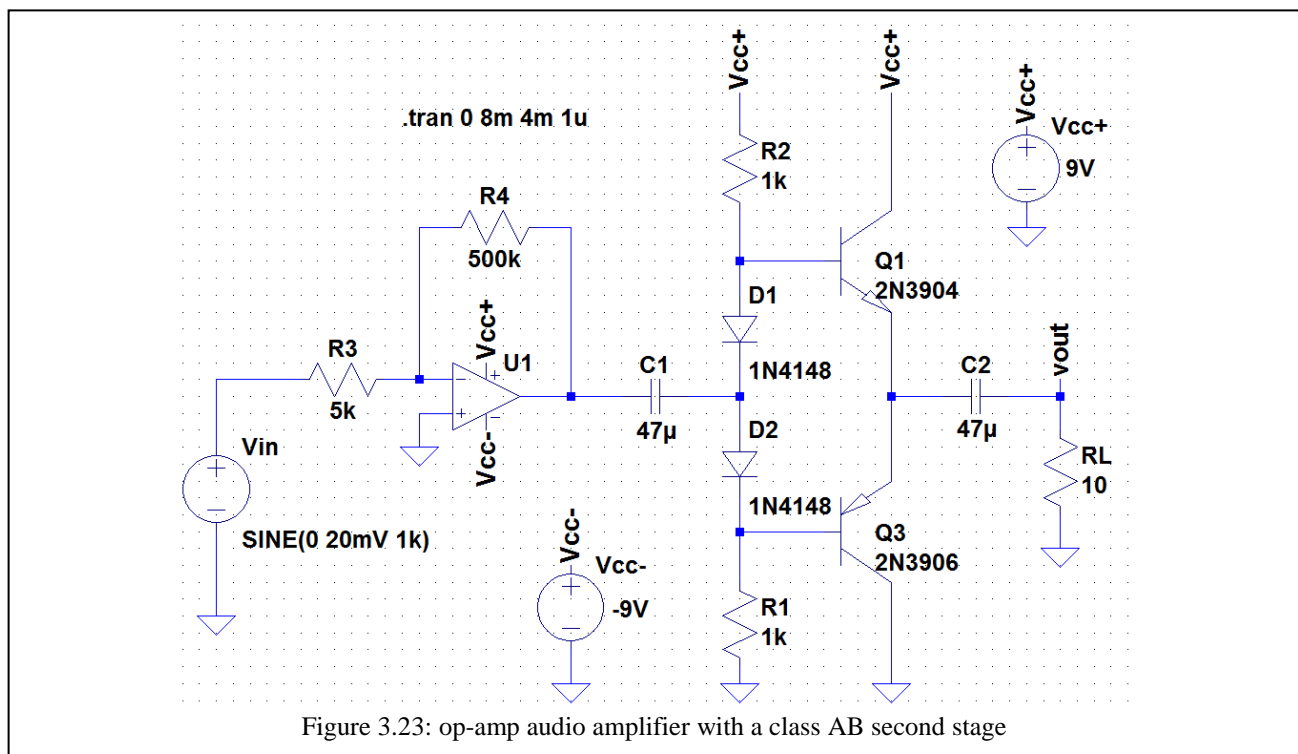

Figure 3.23: op-amp audio amplifier with a class AB second stage
8. Add the class AB push-pull circuit to your op-amp circuit as shown in Figure 3.23. Run the transient analysis.
2. Now add the class AB stage to your op-amp circuit as shown in Figure 3.23. Test it with a 1 kHz amplitude input signal of amplitude 20 mV. Determine the gain of this two-stage amplifier: